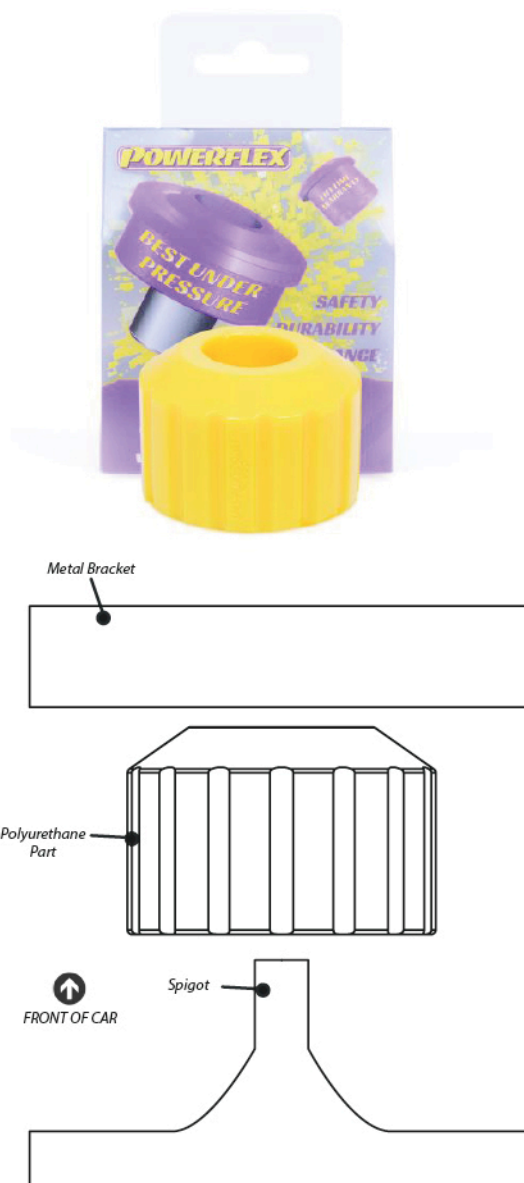

Figure 1 - diagram showing which way the polyurethane part goes into the bracket
3. Push the polyurethane bush onto the spigot, with the chamfered edge facing towards the front of the arm, as shown in Figure 1.